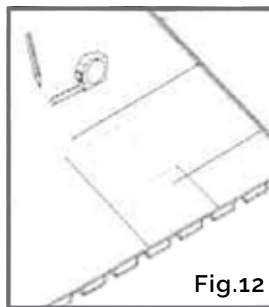

Fig.12
- Use a pencil to mark the panel where the socket will be located, ensuring you capture the socket's full dimensions. ( fig: 12 )